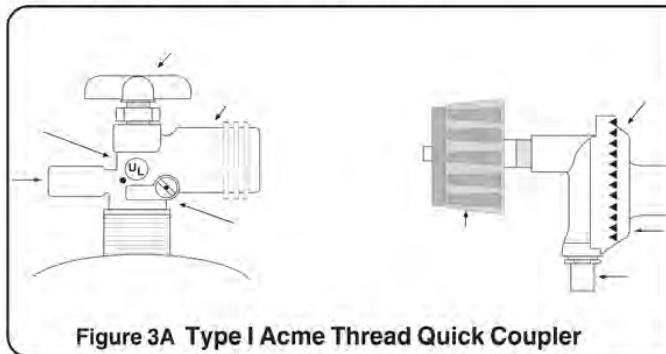

Figure 3A Type I Acme Thread Quick Coupler
- e. The pressure regulator and hose assembly (Figure 3A,) supplied with this outdoor cooking gas appliance must be used. Original and replacement pressure regulator and hose assemblies must be those specified by the Robert H. Peterson Co. for connection with a cylinder connecting device identified as Type I by the Harmonized Standard ANSI Z 21.58 and CGA 1.6-M95-1995 with Addenda ANSI Z 21.58a -1998 and CGA 1.6a - M98.
To disconnect: Turn the hand nut counterclockwise until detached (Figure 3a).